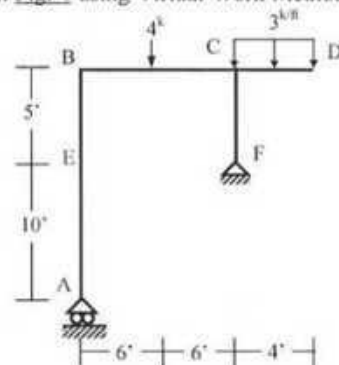

Fig. 5
5. Use the Virtual Work Method to calculate the horizontal deflection at point E of the frame shown in Fig. 5 [Given,  $EA = 400 \times 10^3\text{k}$ ,  $GA^* = 125 \times 10^3\text{k}$ ,  $EI = 40 \times 10^3\text{k-ft}^2$ ].